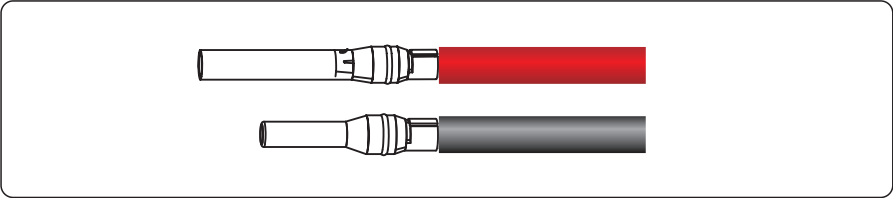

Figure 5.11 Crimping a metal connector
**Step 2** Insert the exposed areas of the positive and negative power cables into the metal terminals of the positive and negative connectors respectively and crimp them using a crimping tool, as shown in Figure 5.11.